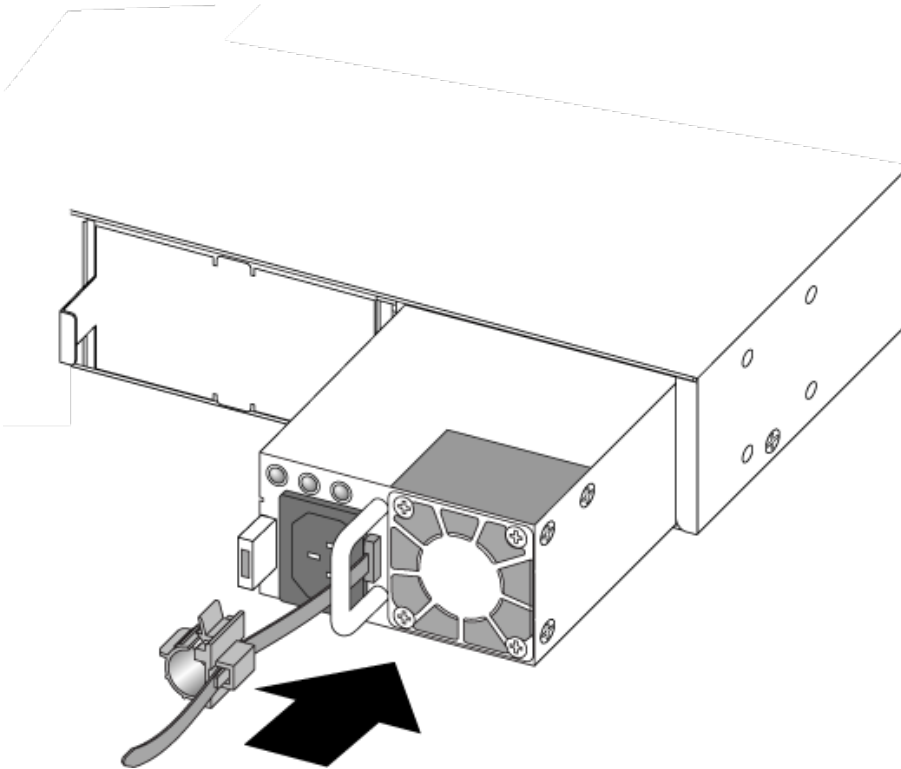

Figure 175: Installing a 750 W AC Power Supply in an EPS-C2 Chassis
- 3 Carefully slide the power supply all the way into the slot in the EPS-C2 chassis (see Figure 175).